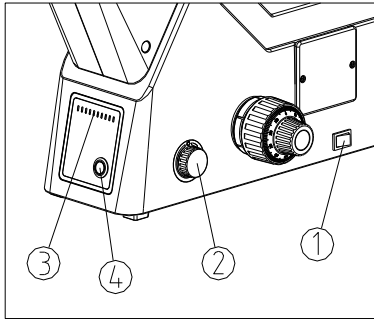

Fig. 11
(1) Put through the power and turn on the main power switch to "ON" (See Fig. 11).
(2) Adjust the light adjustment knob ② until the illumination is comfortable for observation. Rotate the light adjustment knob ② clockwise to raise the brightness, and the number of bright cells on the brightness indicator ③ will increase. Rotate the light adjustment knob ② counterclockwise to lower the brightness, and the number of bright cells on the brightness indicator ③ will decrease.